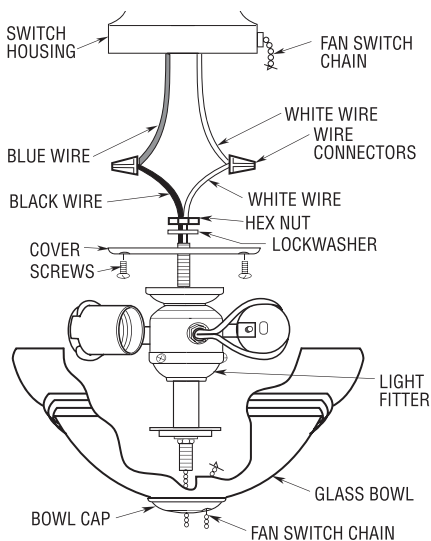

Figure 5
3. Remove the cover from switch housing below ceiling fan by removing two screws (Figure 5).
6. Insert the black and white wires from the light fitter through the center hole in the cover (Figure 5) and thread the switch cup onto the light fitter. Hold wires taut while installing cover to prevent the wires from twisting. Firmly tighten the fitter onto the cover.
8. Connect the white neutral wire from the switch cup to the white neutral wire of the light fixture (Figure 5). Connect the blue line (hot) wire from the switch cup to the black line (hot) wire of the light fixture. Use listed wire connectors (previously removed in step 5) to make connections (Figures 5 and 6). The neutral and line (hot) wires must be installed as instructed to maintain proper polarity at the lampholders.
9. Carefully tuck all wires and connectors into the switch housing. (Figure 5).